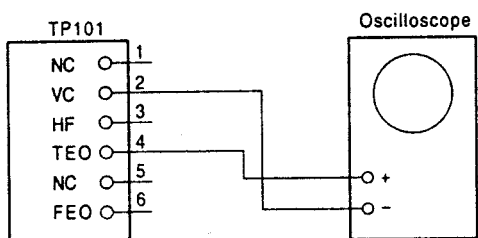

Fig1
6. Press TRACK button ("02" is displayed), also, press PLAY button. Tracking error signal can be observed with the connection below. (Fig1)